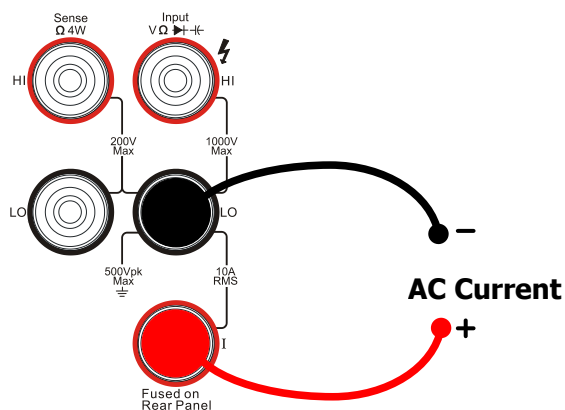

Figure 2-14 Sketch map for connecting
1. Connecting the red lead (Test leads) to Terminal Input-HI (tested circuit) and black lead to Terminal Input-LO as shown in Figure2-14.